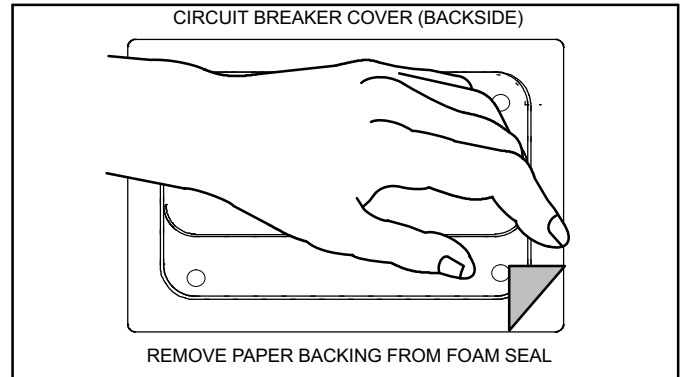

Figure 8. Remove Paper Backing
2. Remove paper backing from seal around perimeter of circuit breaker cover (figure 8).